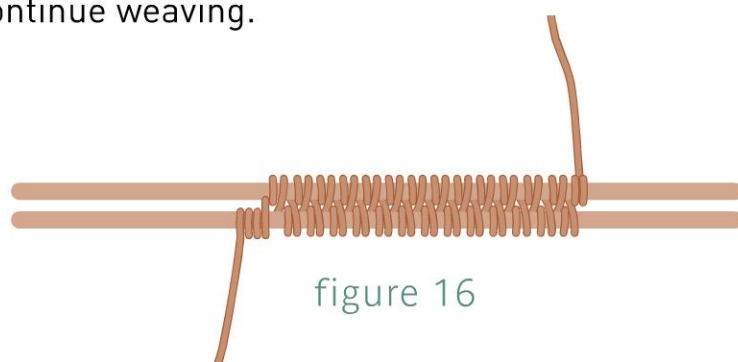

figure 16
- 6 Continue weaving, repeating Steps 4–5 (Figure 16). As you near the end of the frame wires, push the weave to the left to continue weaving.